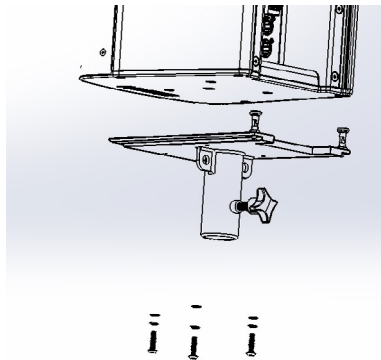

Figure 5 - Position Pole Mount Plate
- Position Pole Mount Plate on bottom of AC6 (Figure 5).